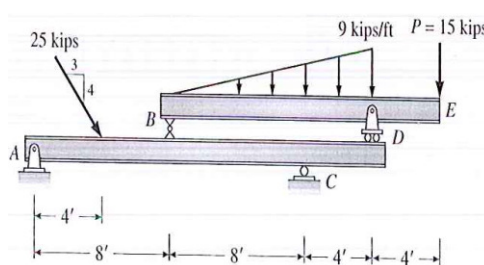
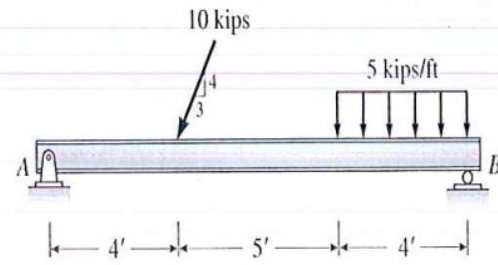

Figure 1
Figure 2
- 4 a) Determine the reactions for the given figure1 and figure2 beams. [7M]